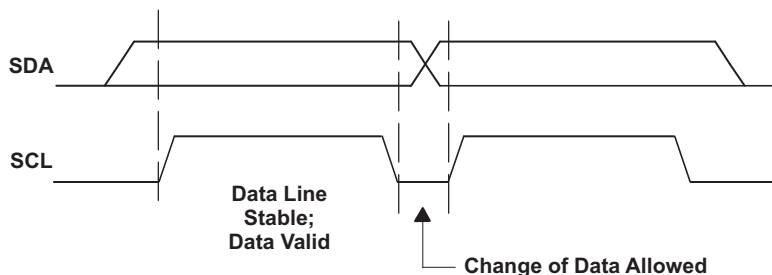

Figure 6. I2C Bit Transfer
- The *master* then generates the SCL pulses and transmits the 7-bit address and the *read/write direction bit* R/W on the SDA line. During all transmissions, the master ensures that data is *valid*. A *valid data* condition requires the SDA line to be stable during the entire high period of the clock pulse (see Figure 6). All devices recognize the address sent by the master and compare it to the respective internal fixed addresses. Only the slave device with a matching address generates an *acknowledge* (see Figure 7) by pulling the SDA line low during the entire high period of the ninth SCL cycle. On detecting this acknowledge, the master knows that a communication link with a slave has been established.